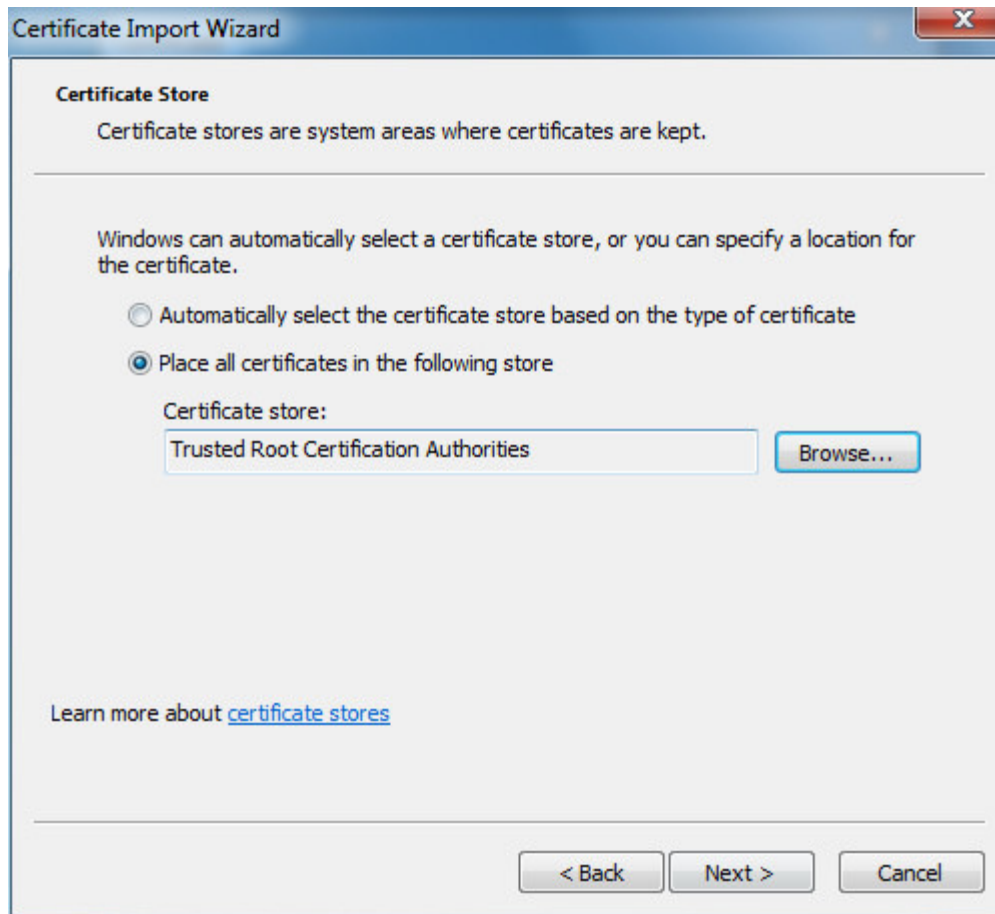

Figure 5-57
8. Click "Next". Select "Trusted Root Certification Authorities", which is shown in Figure 5-57.